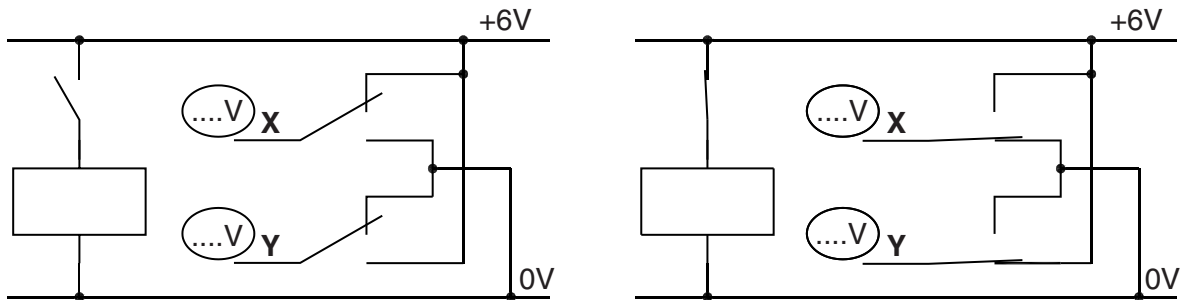

Fig. 4 [1]
- (ii) Fig. 4 shows a switching arrangement using a DPDT relay. The circuit is shown before and after the coil has been connected.